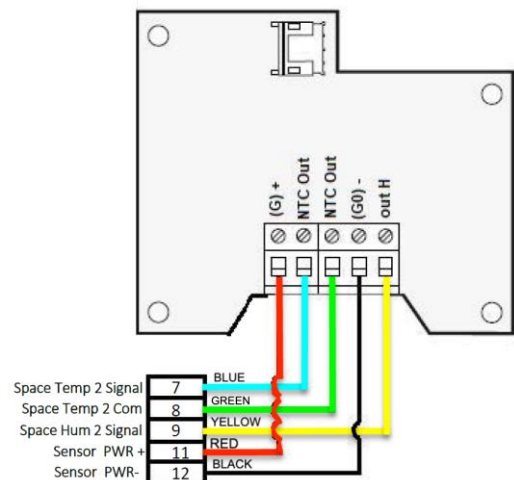

Figure 2. Sensor Terminal Connections
4. Must use either a 3 and 2-wire conductor cable or a 5-wire conductor cable. Wire as indicated below in figure 1 for i-controller 2.0 and figure 2 i-Controller 2.0e.